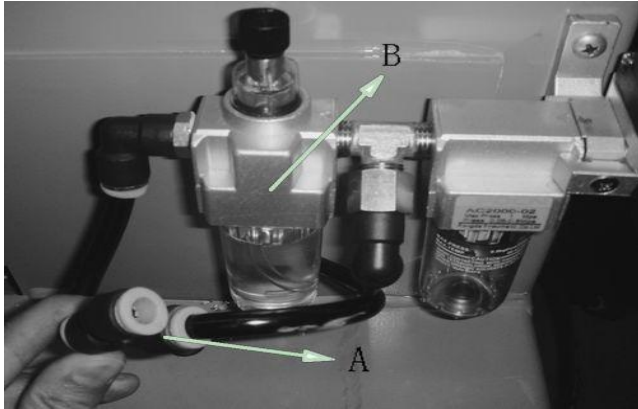

Fig 7-5
7.1.6 Use the Y Tee to connect the air source (Fig7-5 A) and the other end is connected with the helper pressure valve inlet.
7.3.4 Detach the air source outlet pipe. Use one small section of $\phi 8$ PU hose to connect the Y Tee with the outlet. And the other end is connected with the air source pipe (Fig7-5)
7.3.5 Plug one end of $\phi 8$ PU hose (Fig7-5 A) into the remaining connect of Y Tee. And the other end is plugged into the inlet of the pressure regulation valve.